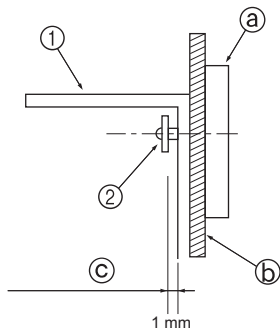

Fig. 3-4
- First, mount the bracket on the wall and then tighten the screw so that the bracket can slide up and down. (Fig. 3-4)
- ① Tip-over prevention bracket
- ② Tapping screw
- ④ Wall surface material
- ⑤ Gap of about 1 mm